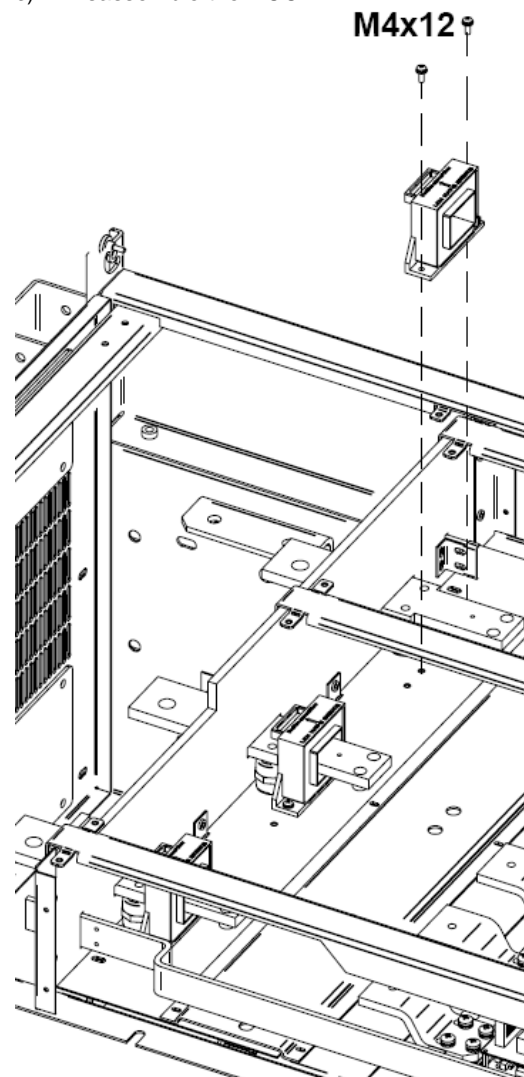

Figure 5.11. Disassembly of the DCCT
- 1) Place the output choke as it is shown in figure 5.11.
Follow figure 5.11 while reading these instructions: